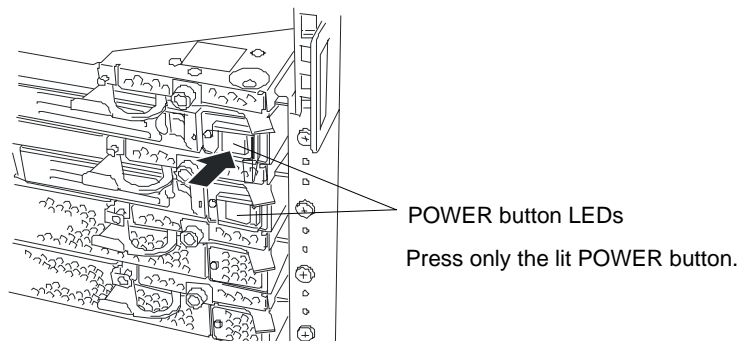

Figure 2-6. PCI Module Power Button Location
3. Each PCI module includes a power button, however only one of the power buttons will be lit. Press the lit POWER button located on the PCI module. See Figure 2-6.